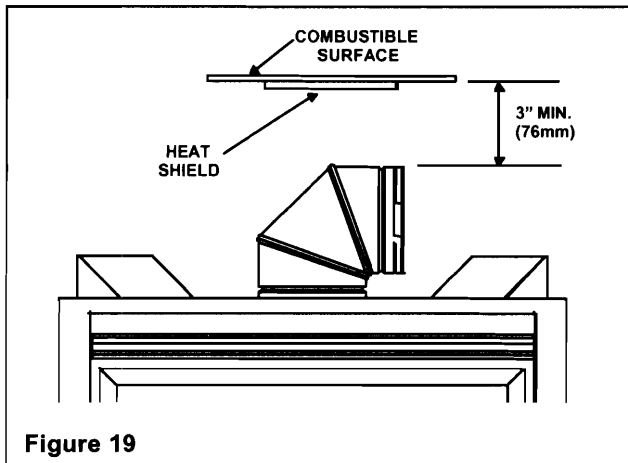

Figure 19
1. Determine if the heat shield is required. Do so by measuring the vertical distance between the top horizontal surface of the elbow to any combustible surface above. If the distance is more than 4 inches, the heat shield is **NOT** required. If it is 4 inches or less, the heat shield **IS REQUIRED**. Install per the following steps. See Figure 19.